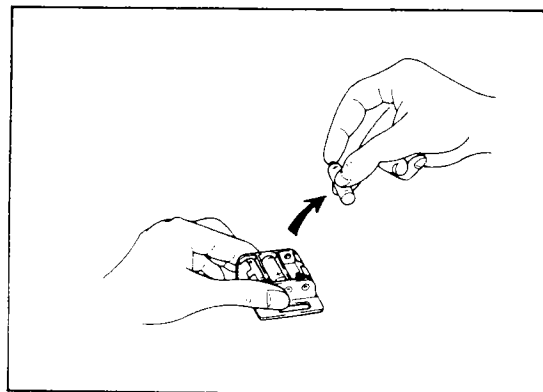

Figure 5-18.
- (5) Remove the old batteries from the holder. (See Figure 5-18.)